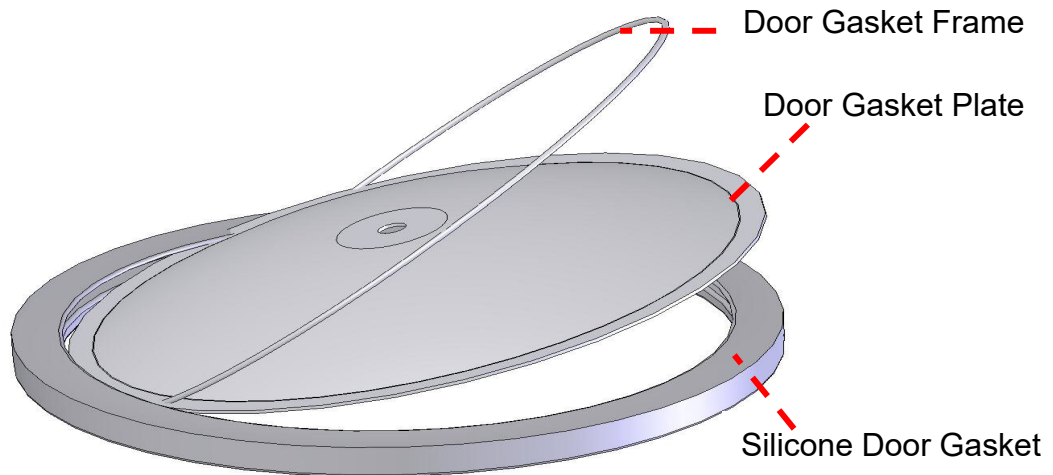

Figure 22
1. Remove the gasket assembly from the door groove, and then take out the door gasket frame, door gasket plate from the old gasket. Install the door gasket frame, door gasket plate to the new gasket as shown in Figure 22 °